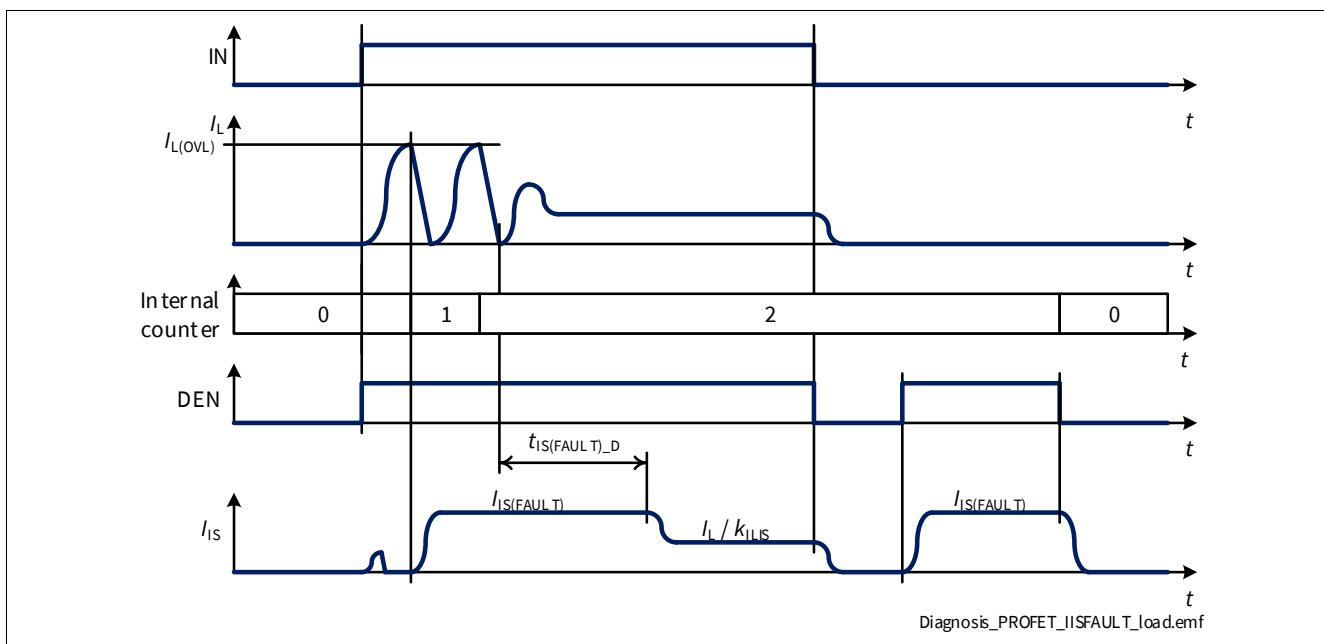

Figure 35 $I_{IS(Fault)}$ at Load Switching
- If the channel is ON and the number of retries is lower than " $n_{RETRY(CR)} + n_{RETRY(CYC)} * n_{RETRY(NT)}$ ", the current $I_{IS(Fault)}$ is provided for a time $t_{IS(Fault)_D}$ after the channel is allowed to restart, after which $I_{IS} = I_L / k_{ILIS}$ (as shown in Figure 35). During a retry cycle (while timer t_{RETRY} is running) the current $I_{IS(Fault)}$ is provided each time the channel diagnosis is checked